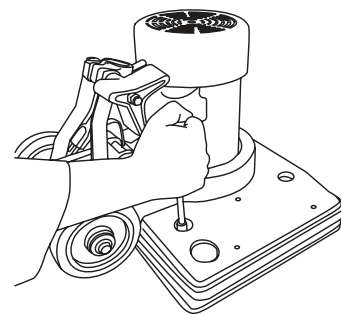

Fig. 3
5. Remove the screws that hold the pad driver with the chassis, 4 screws (Fig. 3)
5. Retire los tornillos que sujetan con el chasis, 4 tornillos (Fig. 3)